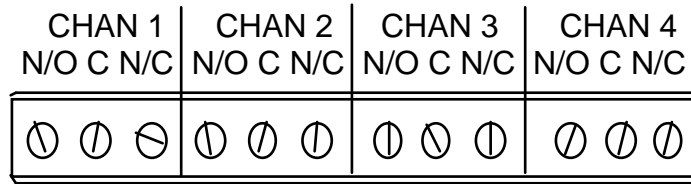

Figure 2-12B. Connector TB302 for wiring from relays to equipment
9. To connect the relays to your equipment, use connector TB302. See Figure 2-12B.